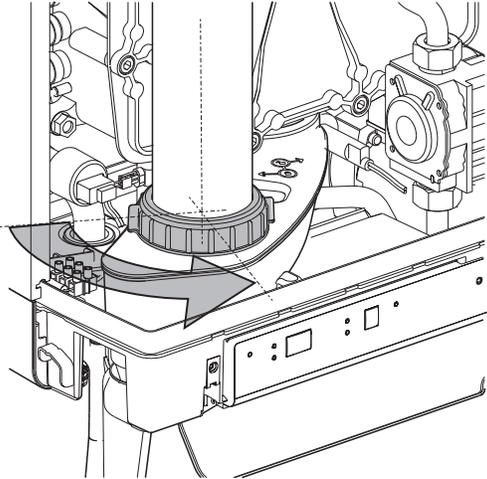

Fig. 23: Loosening of Flue Pipe Retaining Ring
1. Loosen the flue pipe retaining ring as shown in Fig. 23, page 55.